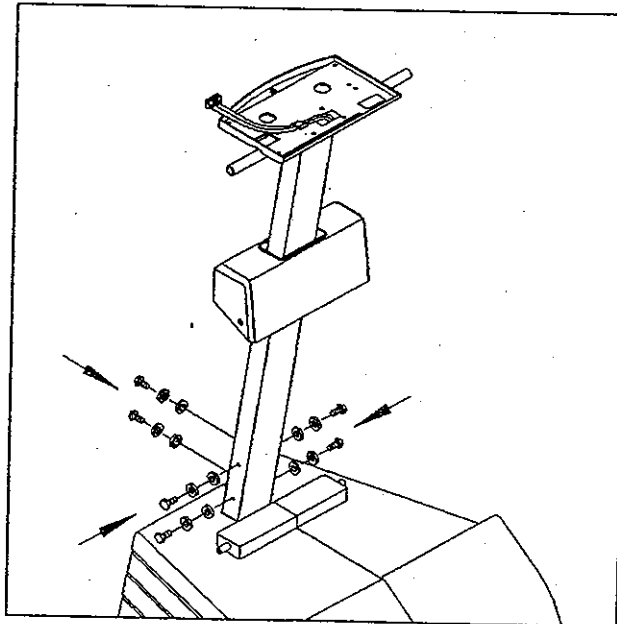

Fig. 8
2. Insert the front post into the main frame, and secure with the six screws, spring washers and washers (see Fig. 8).